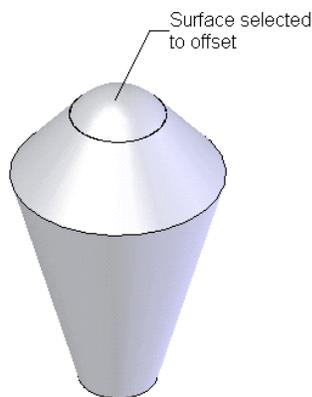
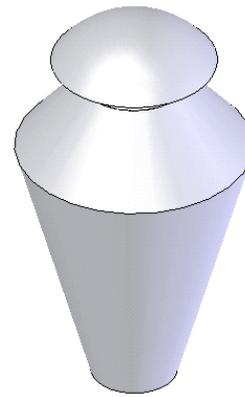

Figure 15-44 Surface selected to offset
Figure 15-45 Resultant offset surface
**Direction** spinner. After setting all the parameters, choose the **OK** button from the **Offset Distance PropertyManager**. Figure 15-44 shows the surface selected to offset and Figure 15-45 shows the resultant offset surface.